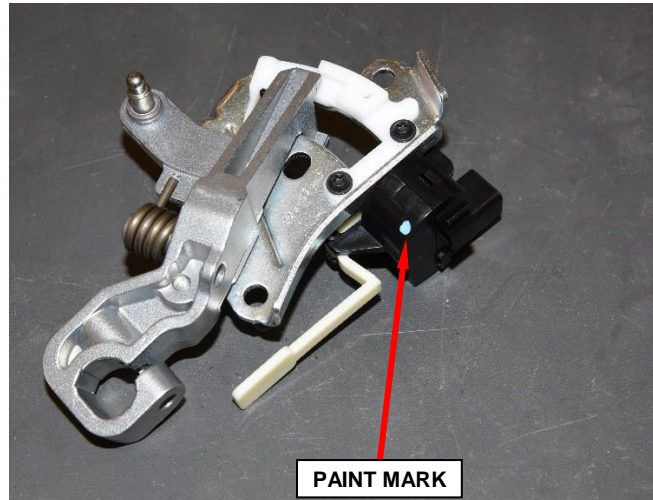

Figure 14 – Gearshift Bracket / BTSI Assembly Paint Mark Verification
25. Verify the **new** gearshift bracket / BTSI assembly to be used has a paint mark on the BTSI solenoid (Figure 14).